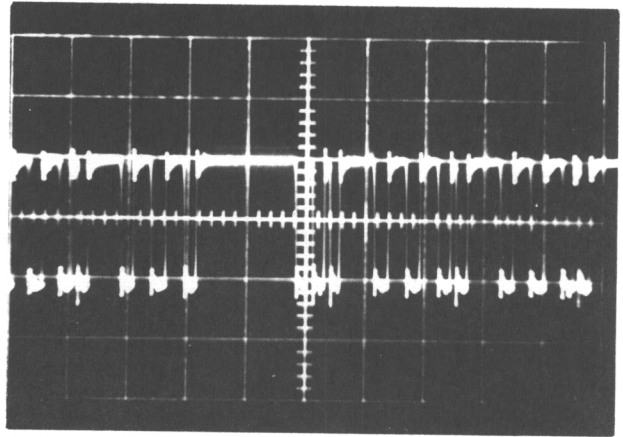

Figure 3-25. 1K12H (0.1 ms/div, 1 v/div, X5)
2. Set scope on DC input, 1 v/div, 0.1 ms/div, X5 and observe 1K12H. Record the DC base line level of the data observed (Figure 3-25).